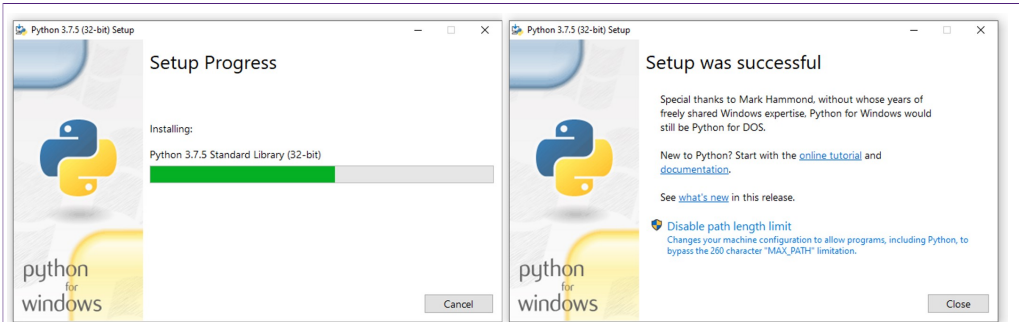

Figure 62. Python 3.5.x 32 bit installation completed
3. Wait a few seconds until the installation is completed as indicated in Figure 62
|          |                                                                  |    | Fig. 62. | Python 3.5.x 32 bit installation completed                                       | 40 |